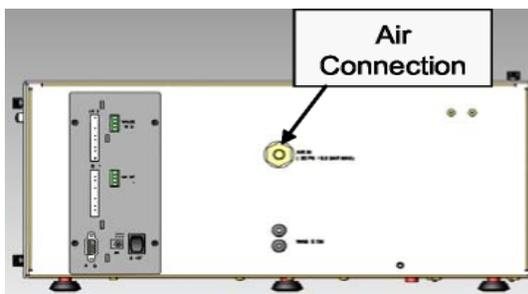

Figure 2-1. Rear Panel - Air Connection
- step 1* Connect the supplied air line to a source of 100 psi (6.9 bar) regulated clean, dry air or nitrogen using the supplied quick-connect adaptor. Connect the other end of the air line to the air connection on the back of the nanoLC system (see Figure 2-1).